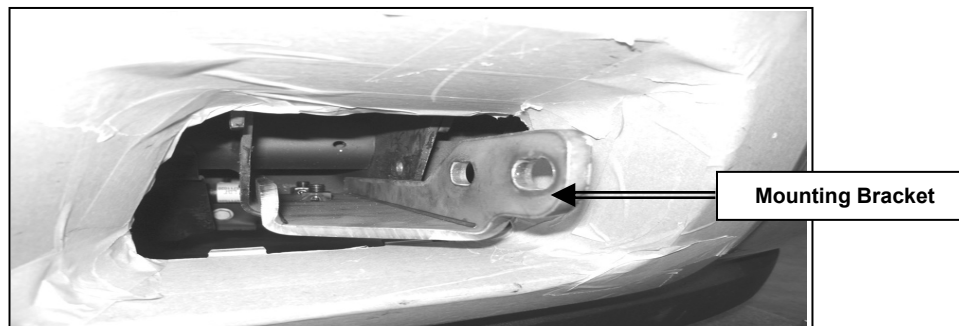

Figure 1
4. Insert driver side Mounting Bracket into front of frame (Figure 1).